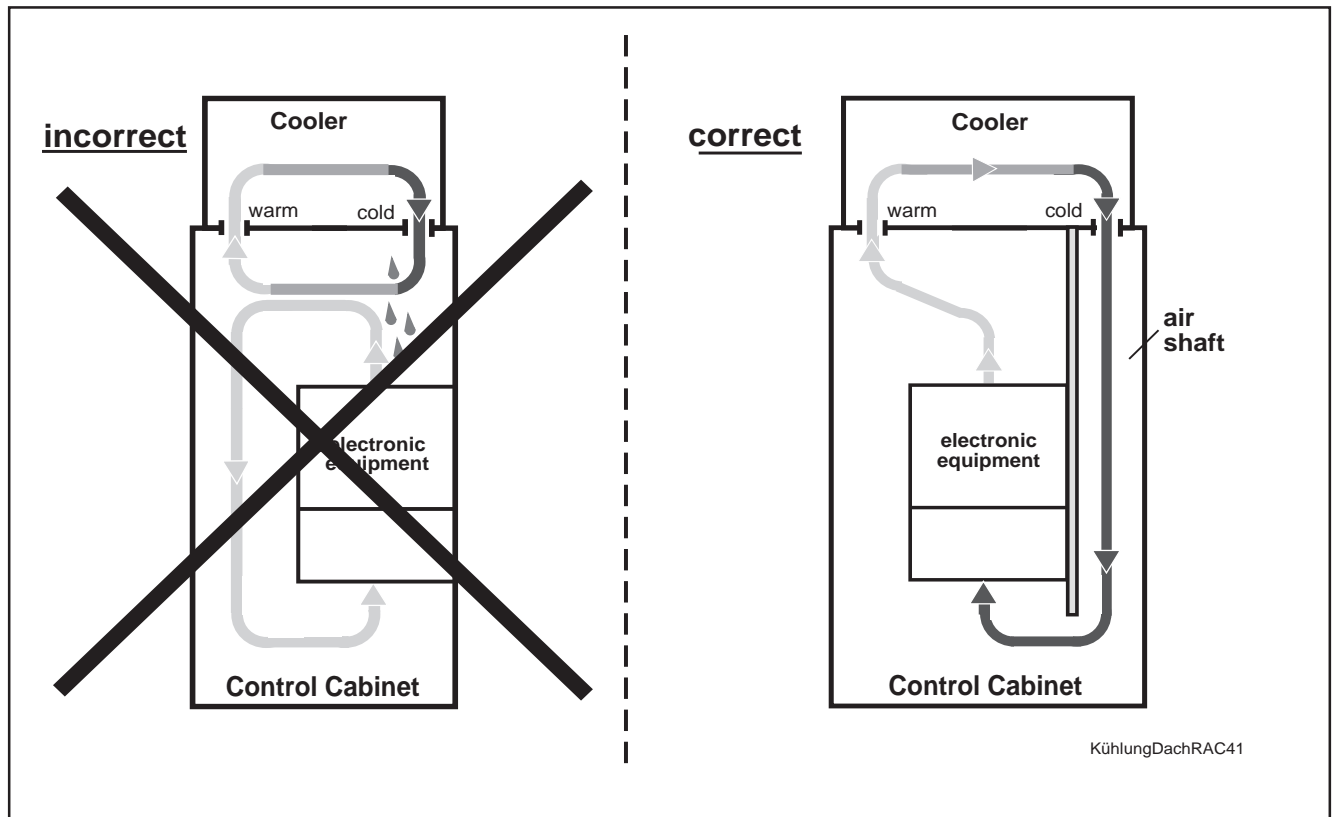

Figure 17: Cooler mounted on top of the control cabinet
- Cooling devices should always be so arranged that any condensed water produced cannot drip onto installed controllers. Cooling devices located on the top of control cabinets require a special control cabinet design, (see Figure 17)!